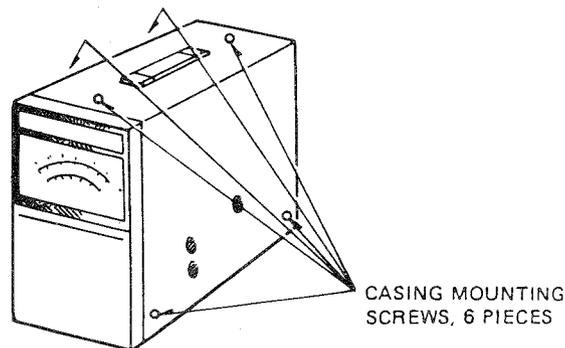

Figure 8 – Casing Removal.
(1) Removing the casing (see Figure 8)